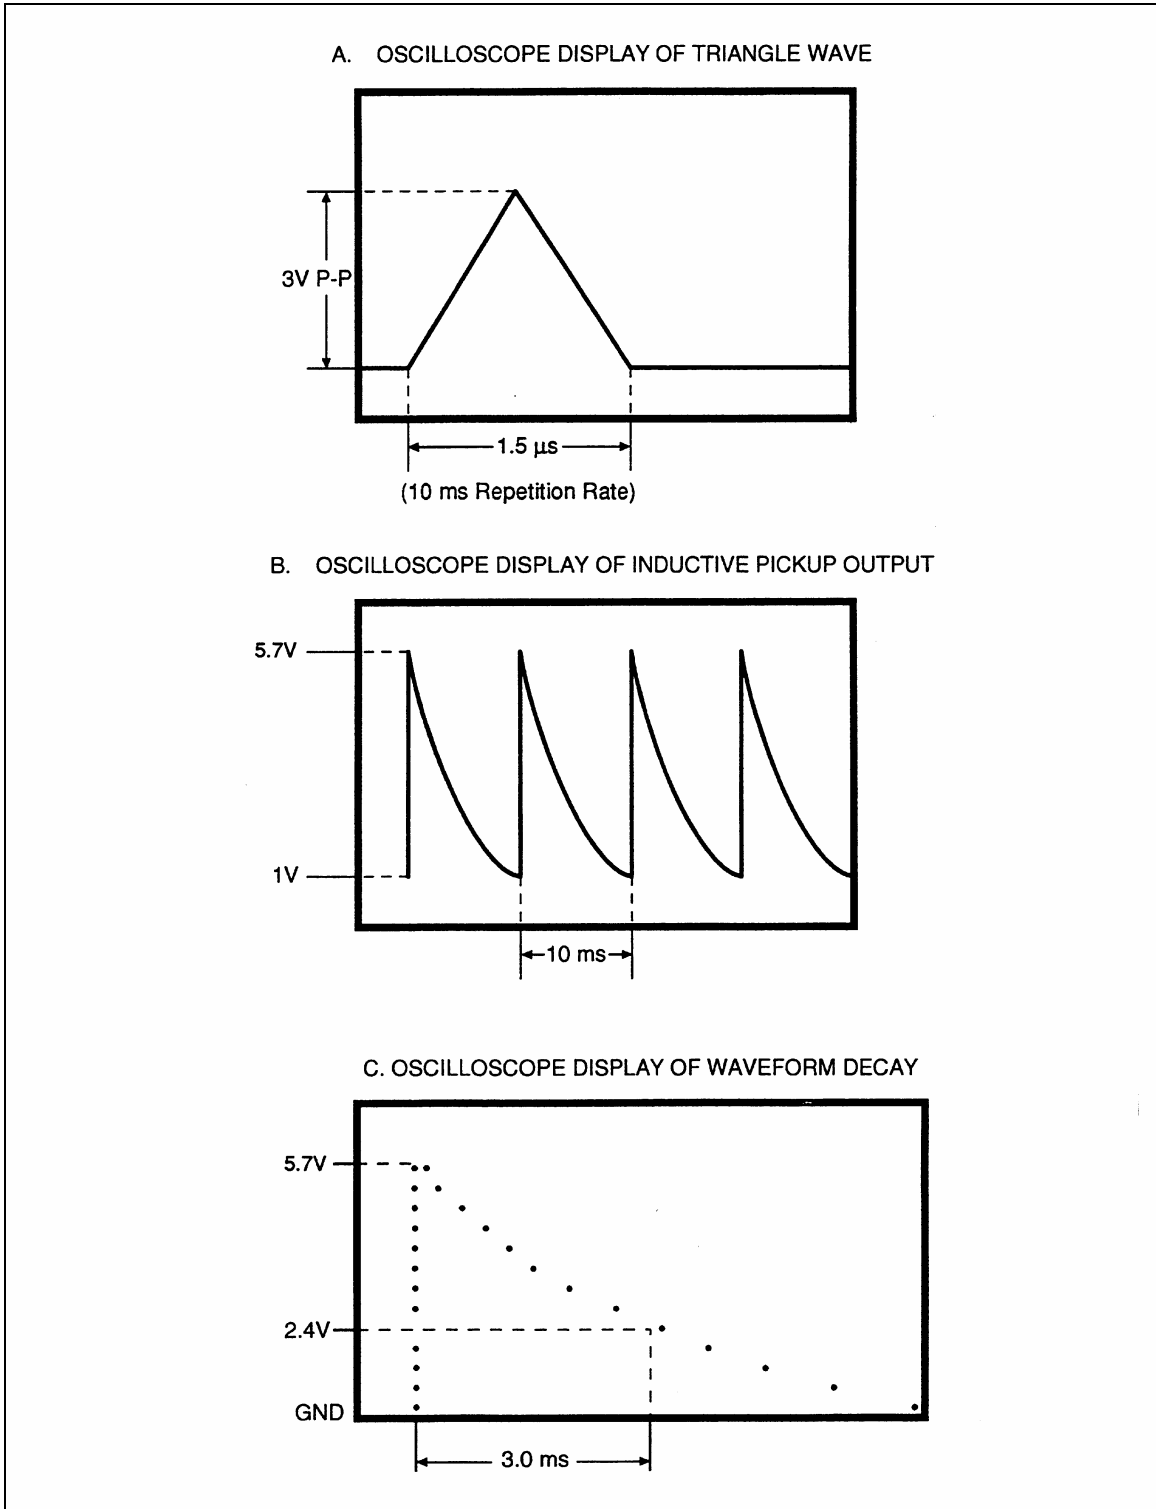

Figure 6. Waveform for Inductive Pickup Test
9. Adjust the amplitude of the function generator to produce a 3 VP-P triangle wave. See Figure 6.
12. Check that the peak voltage is greater than 5.7 V and decays to less than 1.0 V between pulses. See Figure 6. Record the peak value for later use.